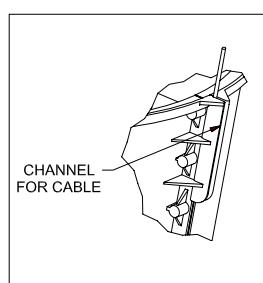

Figure 3.
8. Install two pulleys to the ceiling trusses directly above the feeder line where the hopper is to be located. The pulleys should be spaced 22" apart (11" from the center of the hopper in both directions). See Figure 3.